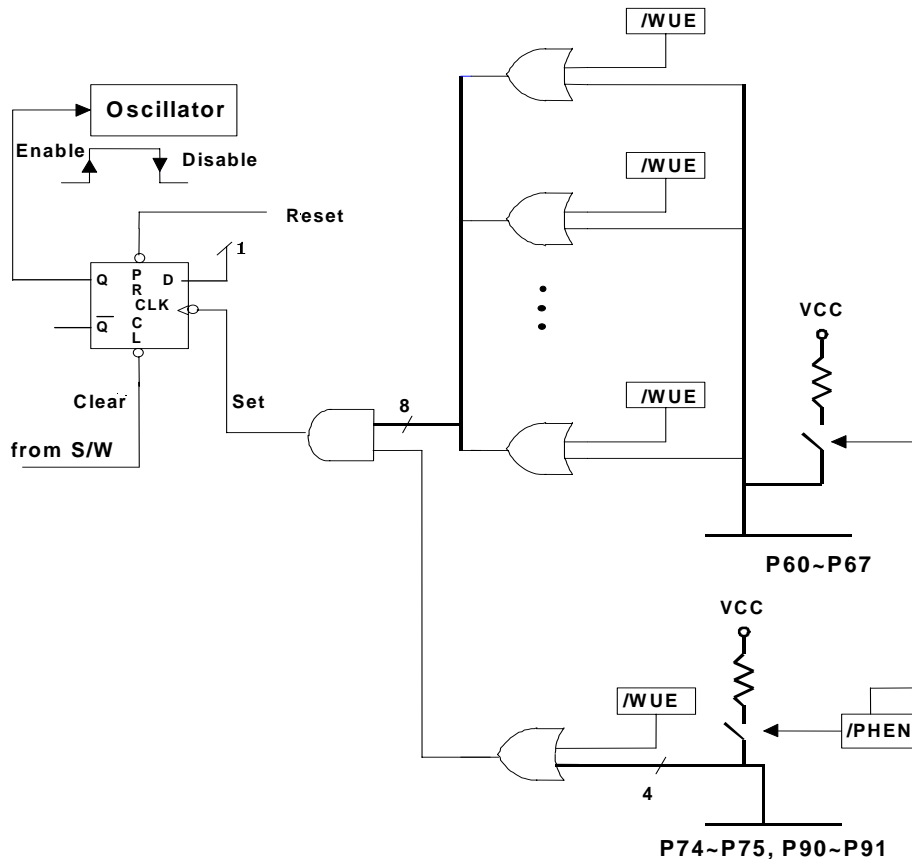

Fig. 5 Block Diagram of Sleep Mode and Wake-up Circuits on I/O Ports
**Bit 4 (SLPC)** This bit is set by hardware at the falling edge of wake-up signal and is cleared in software. SLPC is used to control the oscillator operation. The oscillator is disabled (oscillator is stopped, and the controller enters the SLEEP2 mode) on the high-to-low transition and is enabled (the controller is awakened from SLEEP2 mode) on low-to-high transition. In order to ensure the stable output of the oscillator, once the oscillator is enabled again, there is a delay for approximately 18 ms (oscillator start-up timer (OST)) before the next program instruction is executed. The OST is always activated by wake-up from sleep mode whether the Code Option bit ENWDT is "0" or not. After waking up, the WDT is enabled if Code Option ENWDT is "1". The block diagram of SLEEP2 mode and wake-up caused by input triggered is depicted in Fig. 5. The SLPC bit can be read and written.